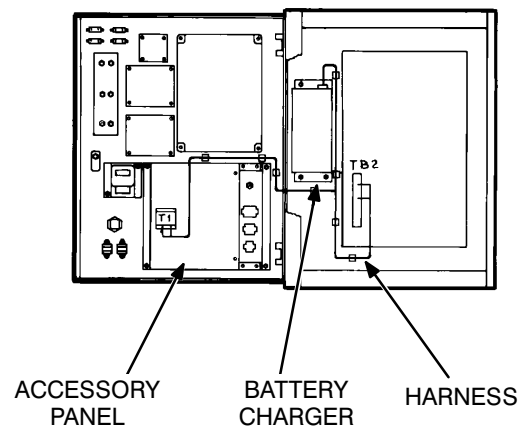

FIGURE 1. MOUNTING LOCATION
3. Mount the battery charger as shown in Figure 1, using the four nuts provided.
6. **OT Models:** Route the kit wiring harness along the main harness as shown in Figure 1.
A 2-wire start system, with B+ and GND wires routed to TB2, is shown in Figure 1. When a 3-wire start system is used, B+ and GND wires are routed to TB3.
10. **OT Models:** Place cable tie mounts in the cabinet as shown in Figure 1.